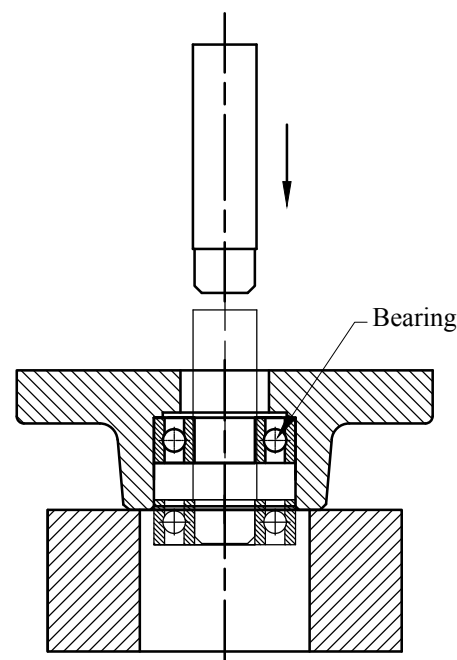

Fig. 4
8. Use an arbor press to press out the air motor bearings. Refer to fig. 4.